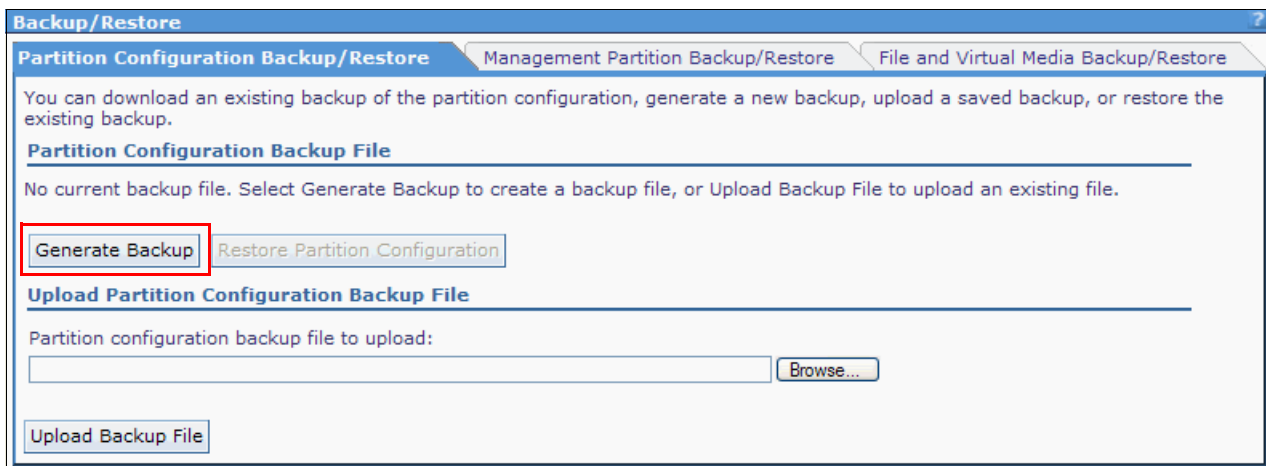

Figure 5-1 Partition Configuration Backup/Restore
2. Select **Generate Backup** in the work area, as shown in Figure 5-1.